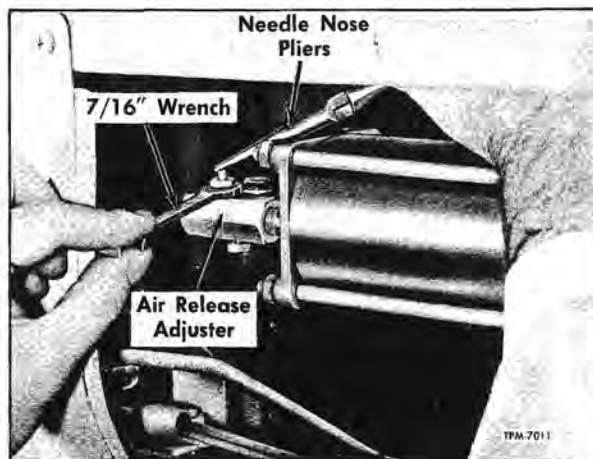

Figure 13—Adjusting Rear Push Type Door Closing Speed
Adjust metering to cushion door on closing by loosening lock nut (2) then turning speed adjusting screw (1) as shown in figure 13. Turning screw clockwise increases cushion effect or turning screw counterclockwise lessens cushion effect. Adjust to prevent door slamming. Tighten adjustment screw lock nut firmly after making adjustment.